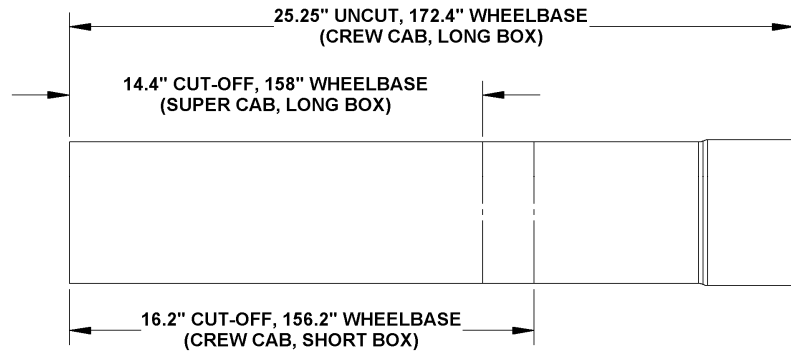

Figure 6
4. The **Extension Pipe** is pre-cut for the 172.4" (crew cab, long box) wheelbase. If installing on a 158" or 156.2" wheelbase vehicle, cut the **Extension Pipe** to the appropriate length. **Refer to Figure 6.**